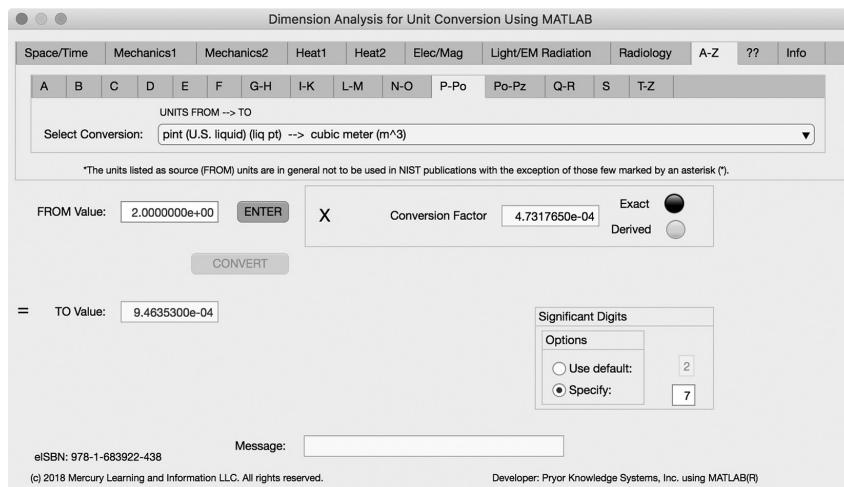

FIGURE C.4 Screen A-Z/P-Po after conversion.
1. Click on the major category tab, A – Z, and then on the P-Po tab (see Fig. C.4).
- f. The TO Value displays as $9.46353000e-04$. (See Fig. C.4.)